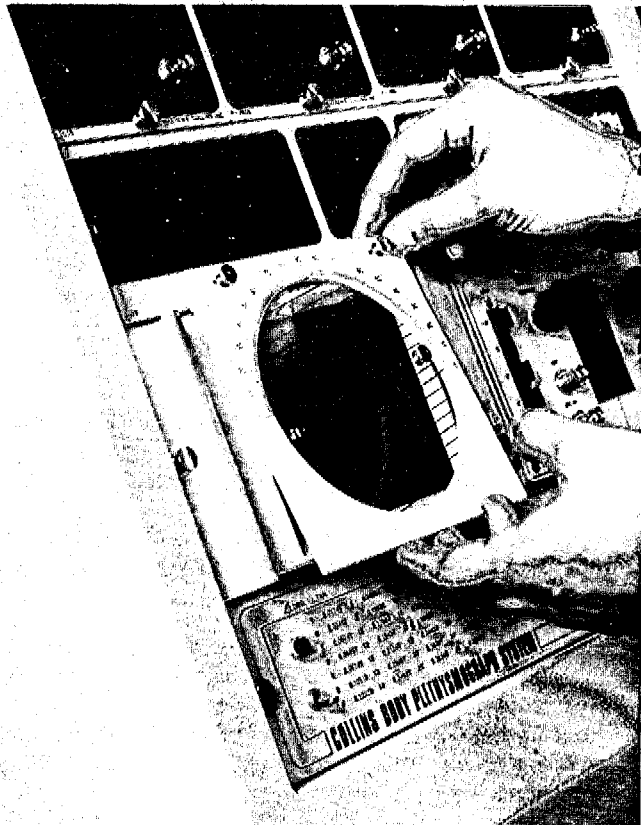
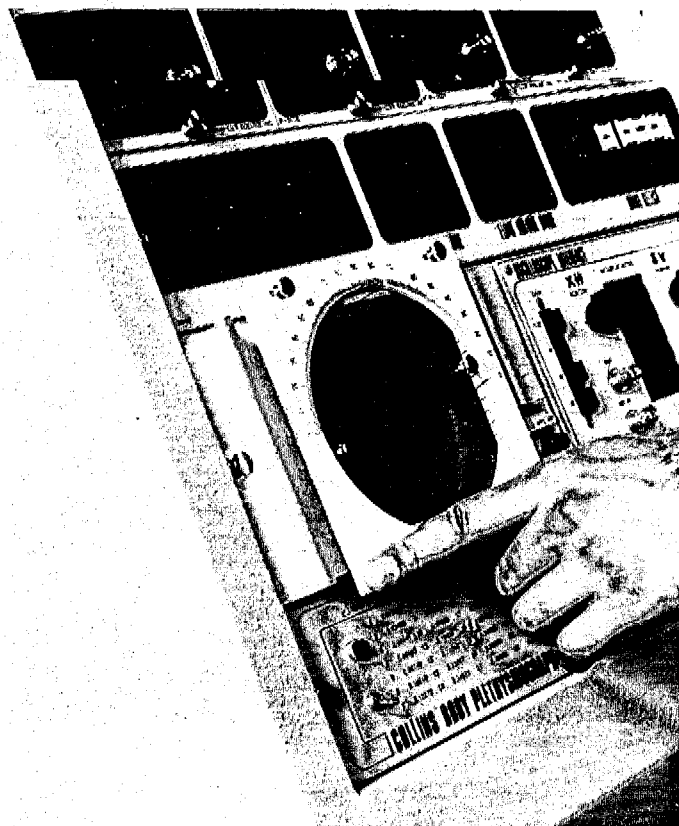

Figure 23 - Placing Graticule on Oscilloscope
Figure 24 - Securing Graticule on Oscilloscope
A.3. The special rotating graticule supplied is designed for easy installation and removal and mounts on the front of the oscilloscope screen. To install the graticule, hang it by the top brackets (Figure 23), then push on the bottom edge until it snaps into place (Figure 24). To remove the graticule, simply pull it by the bottom edge until the brackets release.